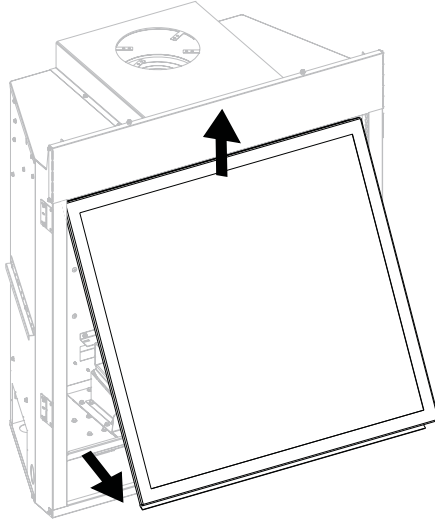

**Figure 5**
2. Undo two latches at bottom of firebox assembly. **See Figure 5.**
19. Reconnect the latches at the bottom of the firebox assembly. **See Figure 5.**